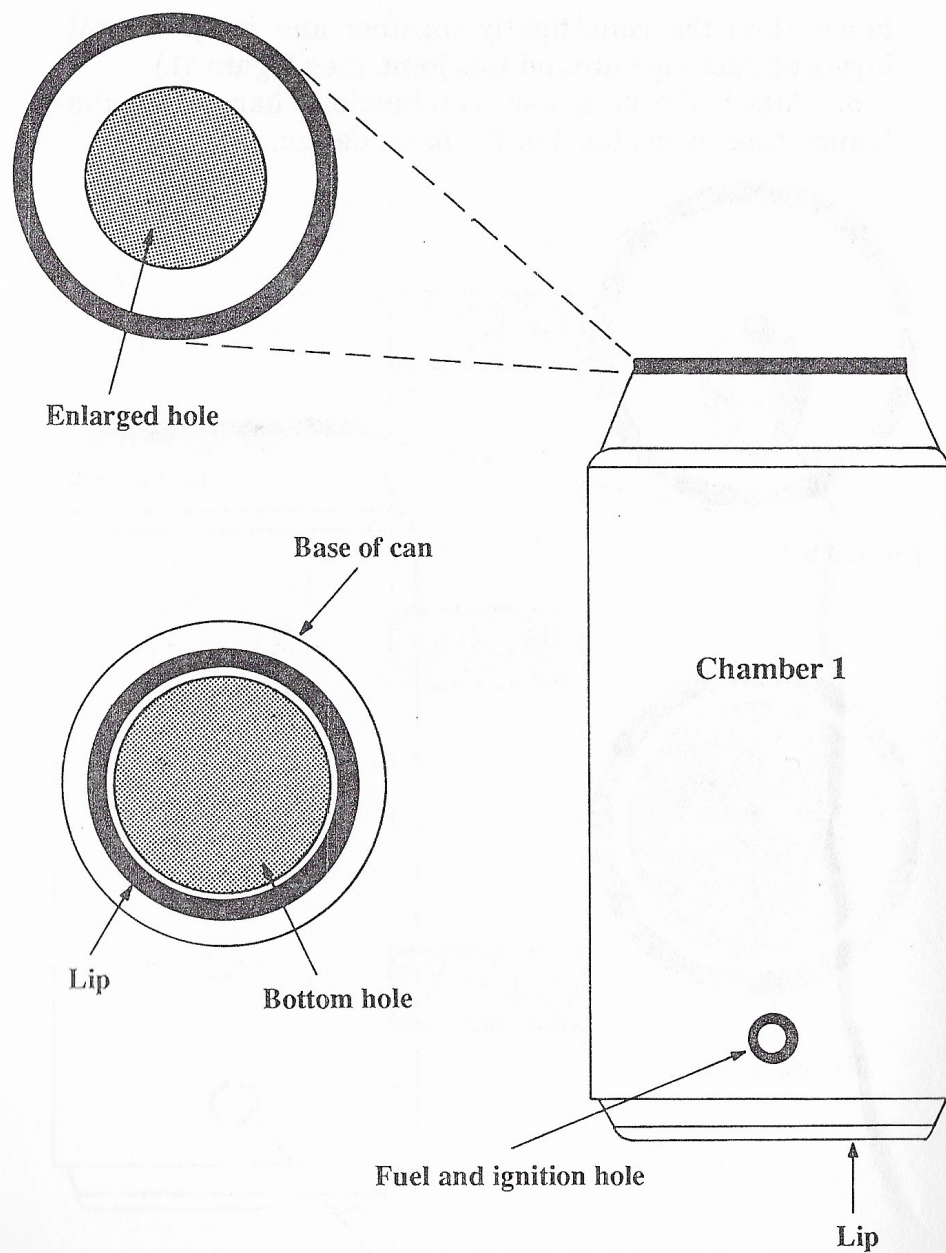

Figure 10
3. Take the second extra can and follow step 6 from the basic design exactly. Once this has been done, a hole will need to be made in the bottom of this can. Do *not* cut off the bottom, but put as large a hole in it as possible without taking off the bottom lip. This can is called Chamber 1. (See Figure 10.)